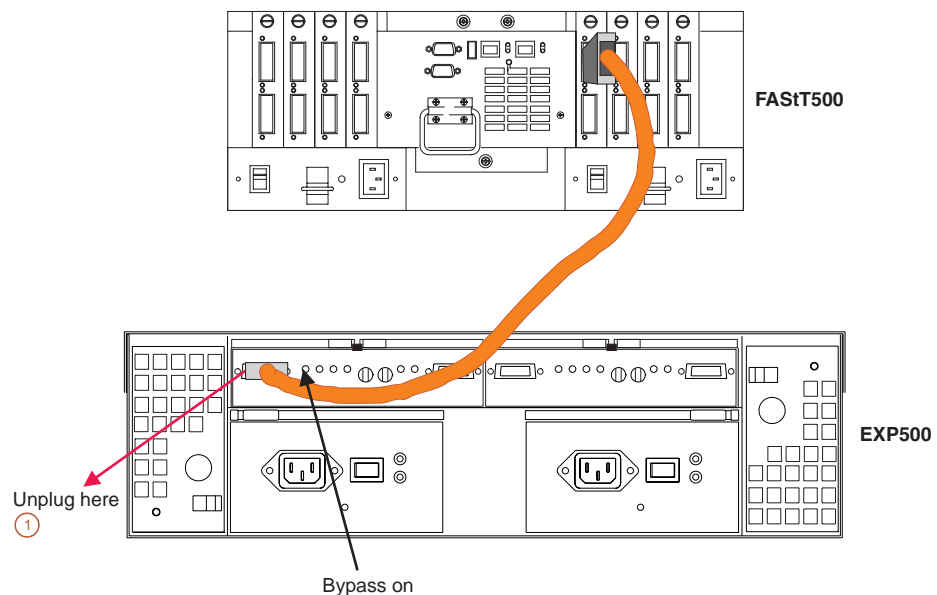

Figure 37. Disconnect cable from loop element
1. Disconnect the cable from the loop element that has the bypass indicator light on. See Figure 37.